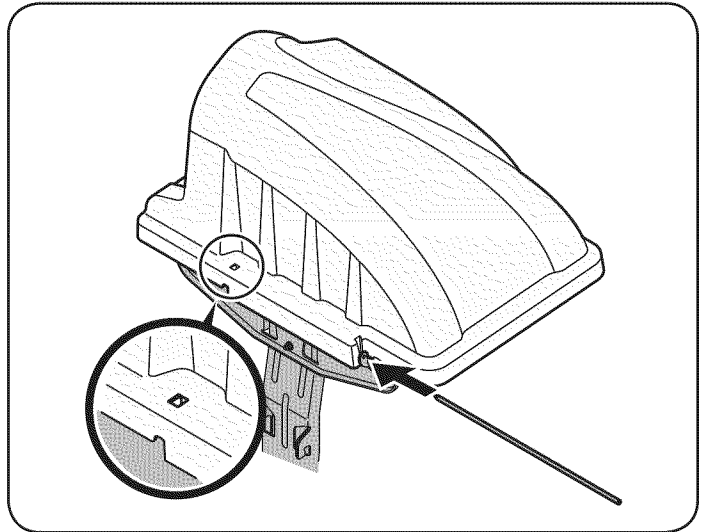
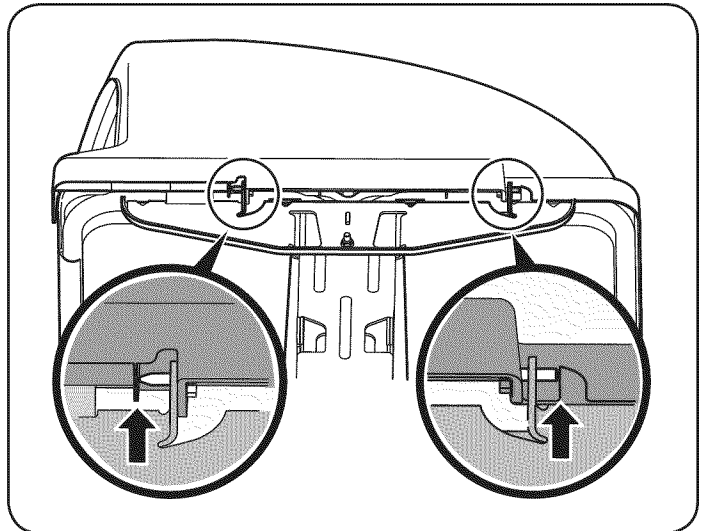

Figure 14
Figure 15
6. Slide the hinge pin into the hole located on the mounting tab, as in Fig. 14. Use the cut-out window (See inset in Fig. 14) to line up the hinge pin on the other side and push pin all the way in until it reaches the end-stop. At this point the pin clips into place and is secured by a tab in the bagger cover. See Fig. 15.